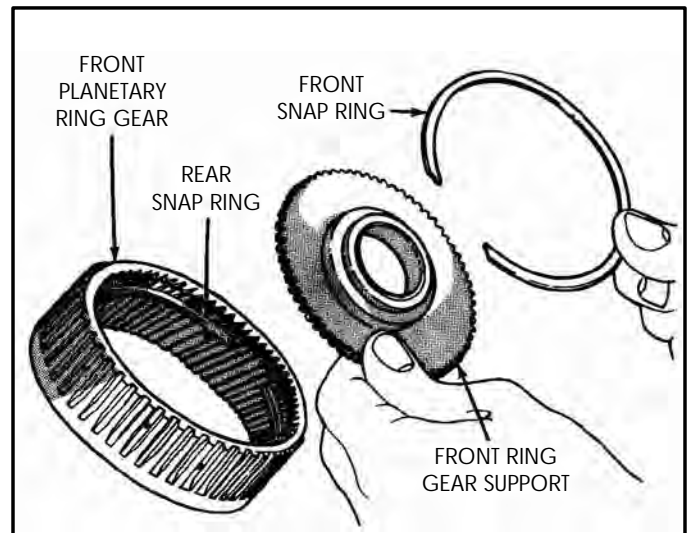

Figure 65
5. Remove the ring gear support from ring gear, as shown in Figure 65.
8. Install the front ring gear support into the ring gear on top of the rear snap ring, as shown in Figure 65.